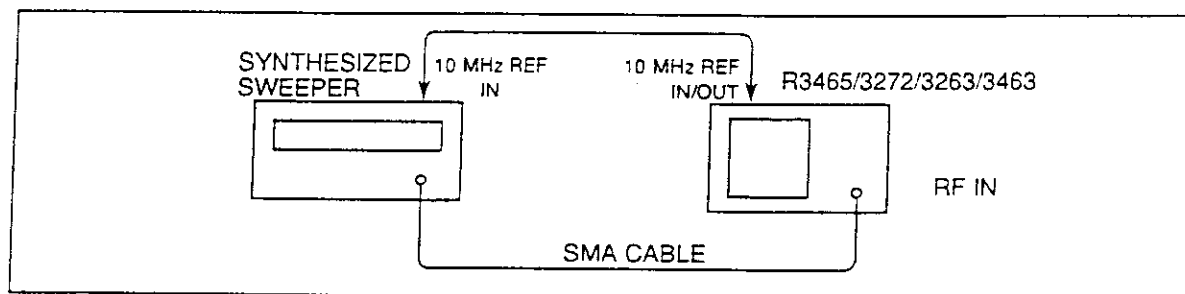

Figure 1-16 Input Attenuator Switching Accuracy Test Setup
- (2) Connect the equipment as shown in Figure 1-16.
- (3) Set the SG1 controls as follows: